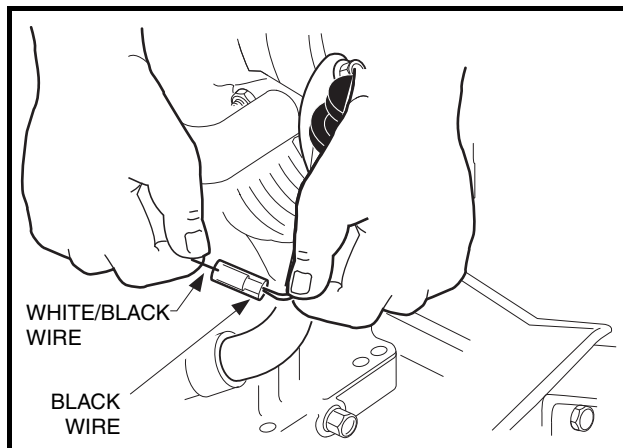

Figure 16-46 Ignition Kill Wire
22. Connect the engine kill switch wire (18-gauge white/black stripe) to the bullet connector at the lower right front of the engine (**Figure 16-46, Page 16-19**).